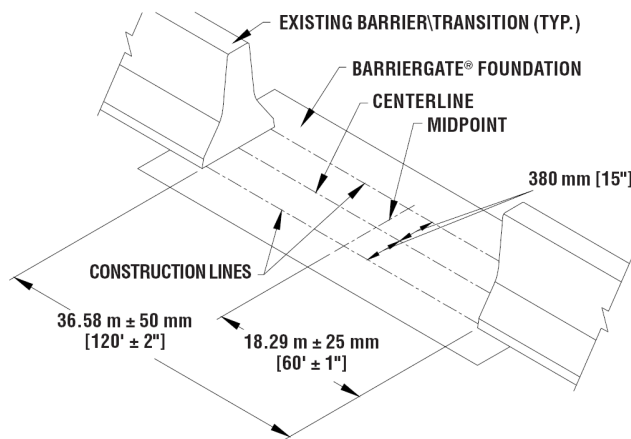

Figure 5
1. Mark the centerline and the mid-point of the assembly (Figure 5).